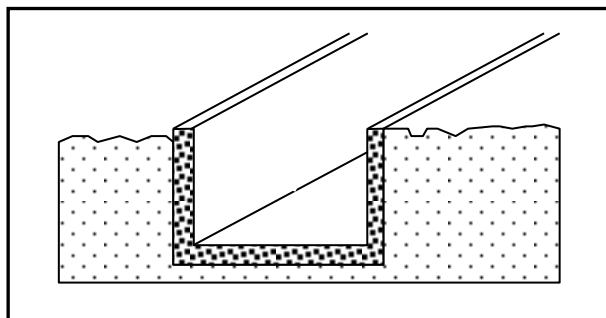

FIGURE 3.3
- 3.3 FIGURE 3.3 below is a drawing of an open storm-water channel. Study the drawing and answer the questions that follow.